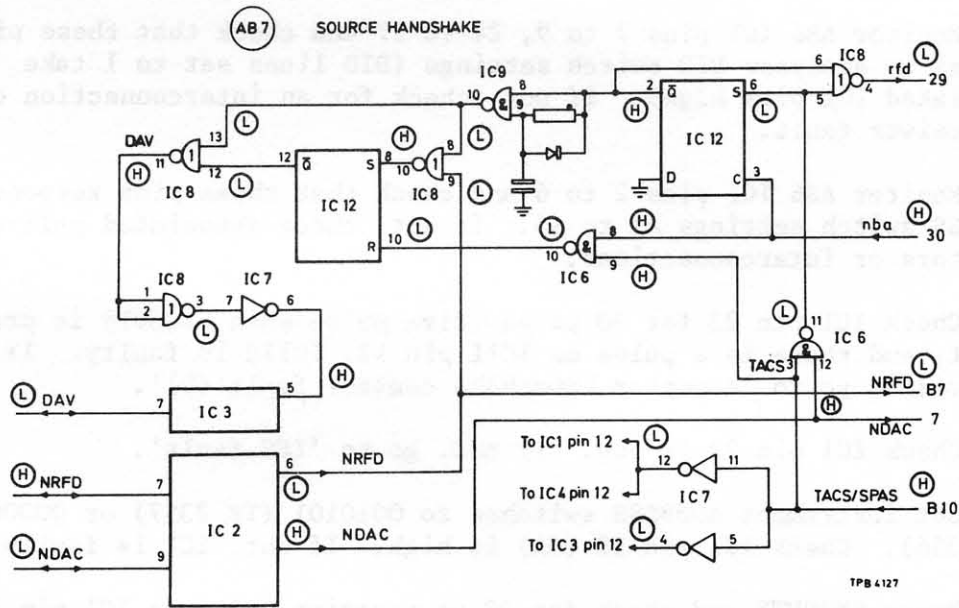

Fig. 8 'SPAS fault' logic levels
- (1) Check AB7,B10 is high. If not, go to 'Talker addressed latch fault'.
- (2) Check AB7,30 is high. If not, go to 'Data output latch fault'.
- (3) Place AB7 on extender board and switch on. Check REN and ATN are at 1 and switch analyser back to TALK. Set DIO lines to MLA and press EXECUTE.
- (4) Set ATN to 0 and press EXECUTE to send faulty data. Check SRQ lamp comes on.
- (5) Set ATN to 1. Set DIO lines to MTA and press EXECUTE.
- (6) Set DIO lines to 00011000 (SPE) and press EXECUTE.
- (7) Set analyser to LISTEN and localize fault by comparing logic levels with those shown in Fig. 8.